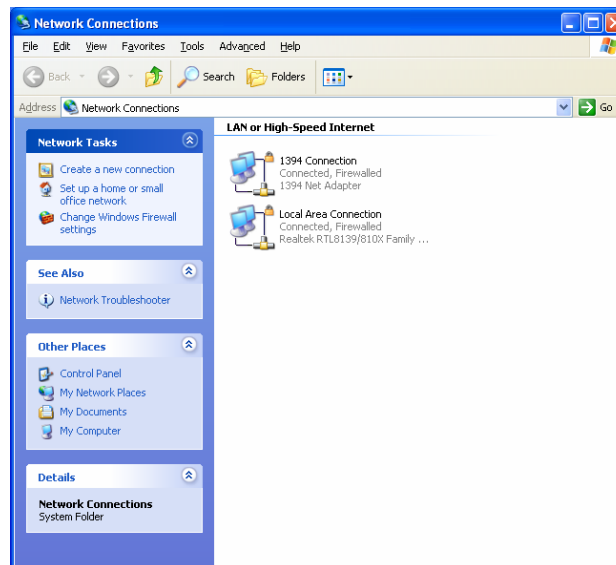

Figure 5-1
- Click on the icon “**Local Area Connection**” with the right button of the mouse and select “**Properties**” (Figure 5-1).